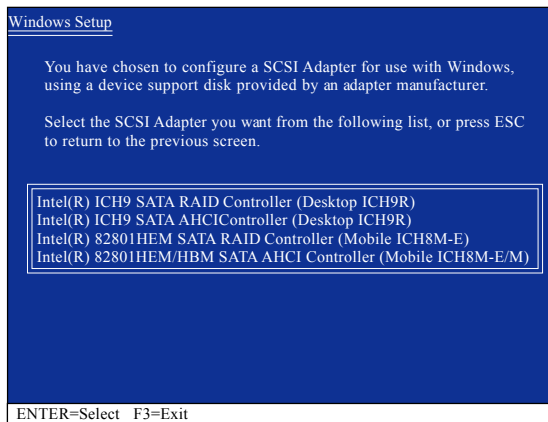

Figure 3
When Setup correctly recognizes the Intel ICH9R SATA RAID/AHCI driver in the floppy disk, a controller menu similar to Figure 3 below will appear. Use the arrow keys to select one of the items displayed and press <Enter>. If you set the **SATA RAID/AHCI Mode** item in BIOS Setup to RAID mode, select **Intel(R) ICH9 SATA RAID Controller (Desktop ICH9R)**. (Select **Intel(R) ICH9 SATA AHCIController (Desktop ICH9R)** for AHCI mode.)